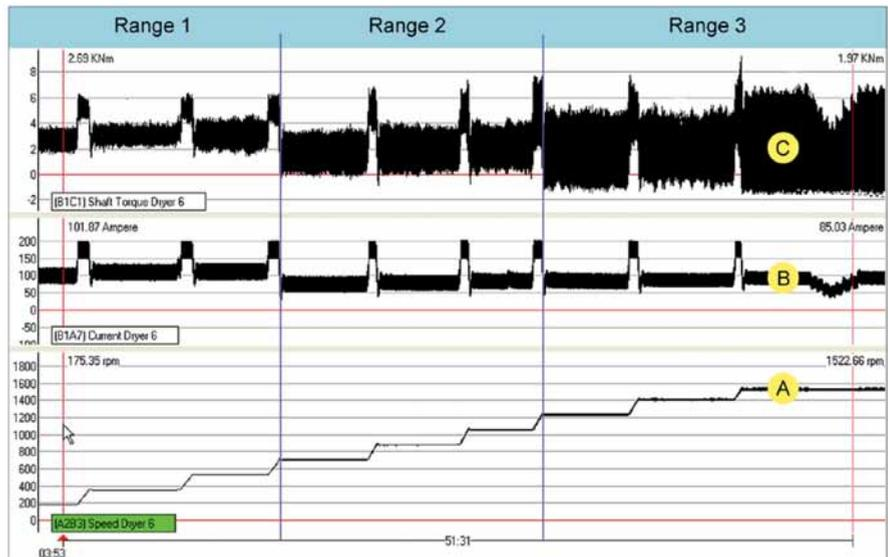

Figure 14—Measurements from paper machine drivetrain (courtesy Contec Control Technology AB, Sweden).
The measurements in Figure 14 made on a drivetrain for a dryer section of a paper machine illustrate the above behavior. The measurements were made in an attempt to find the reasons for gearbox noise and limited drive shaft card and joint service life. Three physical parameters were monitored: driving motor speed (1), driving motor current (2) and driven machine torque (3).